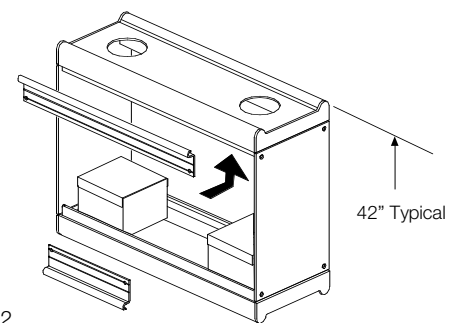

Fig. 2
2. Locating the Top Mounting Rail. (Fig. 2 & 3)